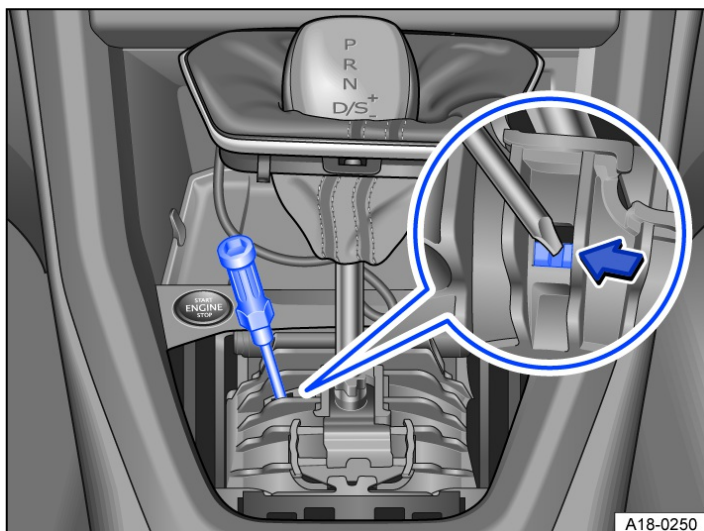

Fig. 1 Releasing the selector lever lock manually.
- Using the flat blade of the screwdriver from the vehicle tool kit, carefully push the release lever in the direction of the arrow → *Fig. 1* (magnifying glass) and keep it in this position.